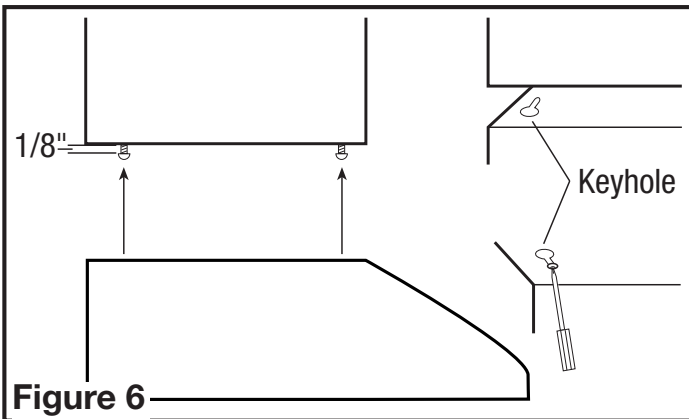

Figure 6
- Install the 4 mounting screw at the previously marked locations. Leave approximately 1/8" clearance. Slide the hood in place through the keyhole slots and align the front of the hood so that it is flush with the front of the cabinets. Tighten all screws securely (Figure 6).